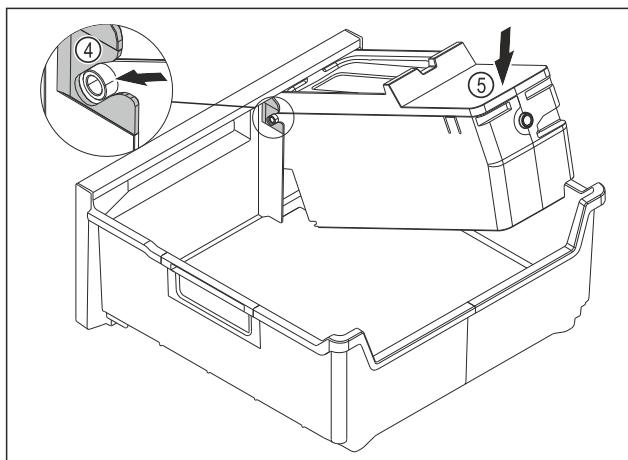

Fig. 162
- ▶ Installing the EasyTwist-Ice body: Push the axes for the EasyTwist-Ice body into the guides Fig. 162 (4).
- ▶ Press the EasyTwist-Ice body Fig. 162 (5) down at the back.